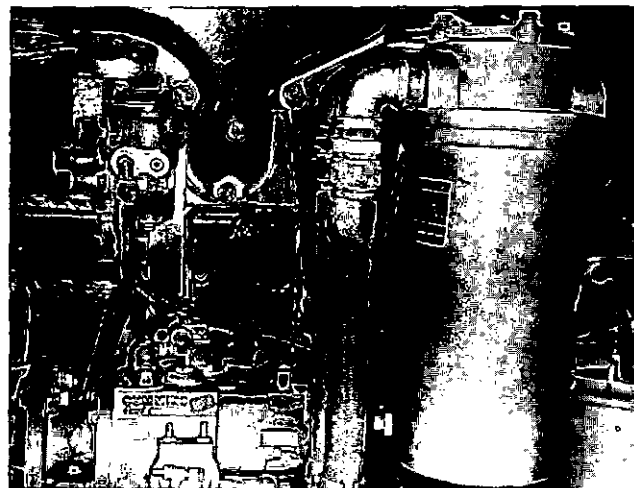

Fig. 5-7, N11961. Typical remote mounted lubricating oil filter (center bolt)
1. Remove drain plug (Fig. 5-7, 1 and 2) and allow oil to drain.